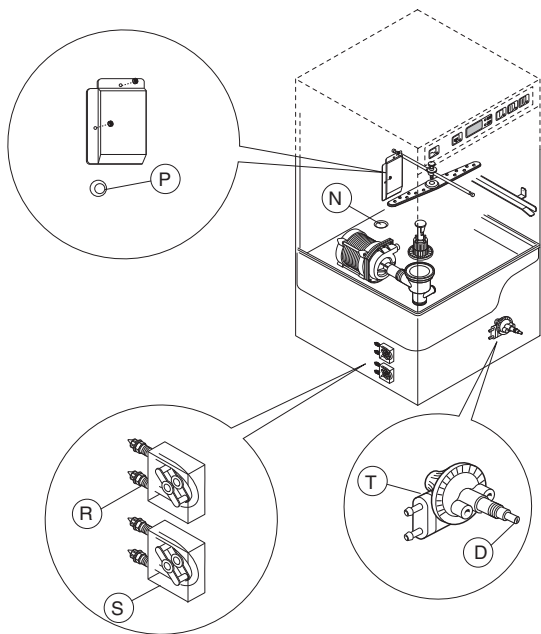

Figure 16
1. Dishwasher with incorporated detergent dispenser pump (Figure 16).
2. Dishwashers with incorporated peristaltic rinse-aid dispenser pump (Figure 16).
3. Dishwashers with incorporated rinse-aid diaphragm dispenser pump (Figure 16).
Connections for automatic detergent dispenser (Figure 16)
In the appliances with pressure boiler, the diaphragm dispenser pump may be manually activated by pressing screw "D" (Figure 16).
To change the dispensed amount, turn \pm on screw "D" accordingly (Figure 16).